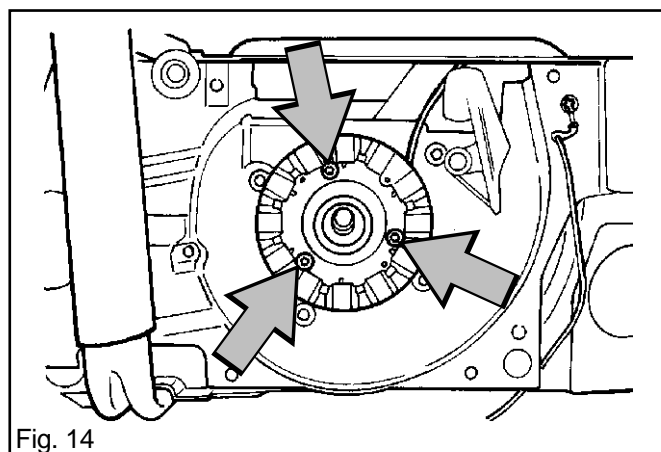

Fig. 14
3. Detach the generator by removing the three fixing bolts. See fig. 14.
5. Locate the new generator as shown in fig. 14 and tighten the bolts to 4 Nm.